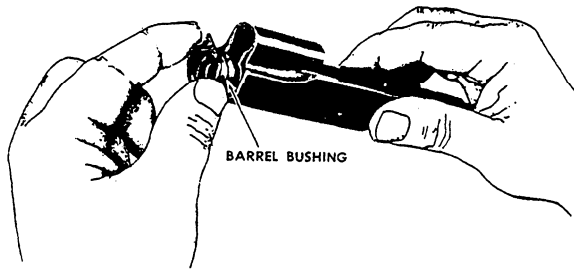

Figure 3-35.—Barrel bushing removal from the slide.
6. Remove the barrel bushing by turning it counterclockwise, as shown in figure 3-35, and pulling it from the slide.
2. BARREL BUSHING. Place the barrel bushing on the muzzle end of the barrel, push it into the slide, and turn it clockwise. (See fig. 3-35.)